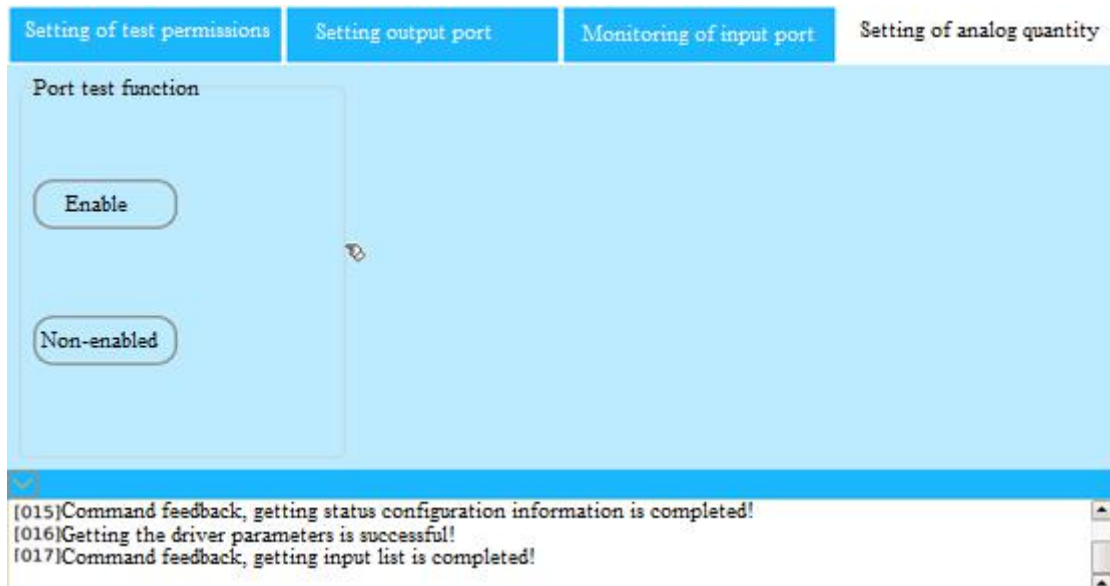

Fig. 2.11 “Interface Debugging” Structure Composition Picture
The function of “interface debugging” is mainly for the purpose of making it convenient for the user to test the state of the external equipment connection during manual teaching, and judging whether the expected effect can be achieved. It mainly composed of four parts of “set up the test authority”, “set the output port”, “monitor the input port” and “set the analog quantity”, as shown in Fig. 2.11.
(1) Set the test authority: When using the “interface debugging” tool, the “test authority” should be set firstly, and as shown in Fig. 2.11; click the “enabling” button, and the “test authority” setting is successful; when not in use, you can click the “non-enabling” button to close the test authority .
(2) Set the output port: After “set test authority” is completed, I/O output port status can be tested.